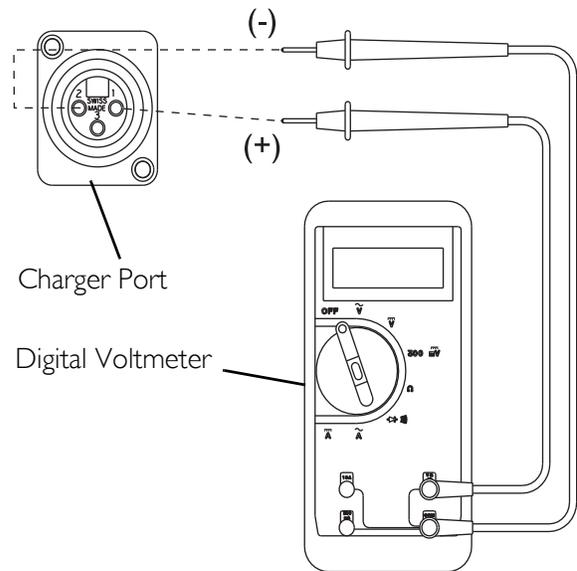

FIGURE 3.1 Field Load Test
NOTE: For this procedure, refer to FIGURE 3.1 on page 31.
4. Connect the voltmeter leads to the charger port on the wheelchair as shown in FIGURE 3.1.